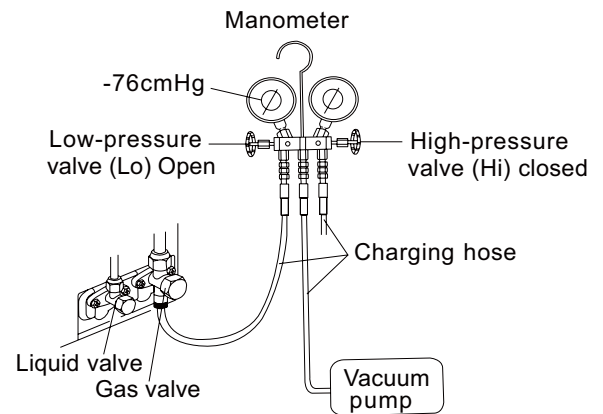

Fig.15
7. Tighten bonnet of gas valve and liquid valve and nut of charge nozzle. (As shown in Fig.15)